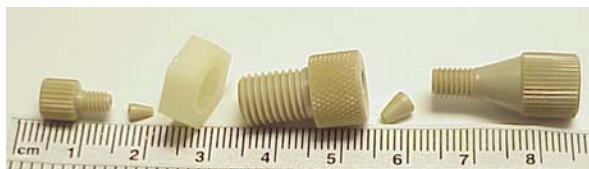

Figure 6-17 Bulkhead Union
- a. Remove the PEEK bulkhead union (Figure 6-17).